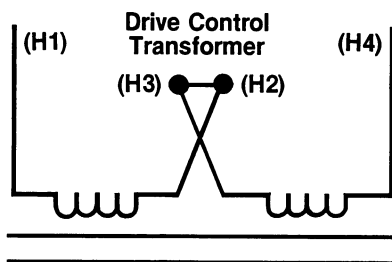
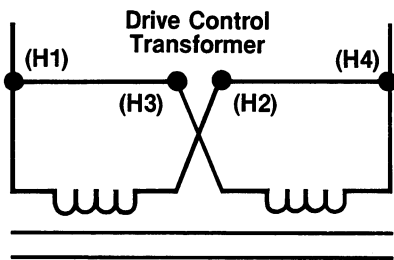

Figure 1a — Connection for 460V AC Operation of 1 PT
Figure 1b — Connection for 230V AC Operation of 1 PT
1. The Drive Module, as shipped from the factory is wired for 460V AC operation. If 230V AC operation is desired, remove the jumper between terminals H2 and H3 on the control transformer (as shown in Figure 1a), and connect jumpers between H1 and H3 and between H2 and H4 (as shown in Figure 1b).